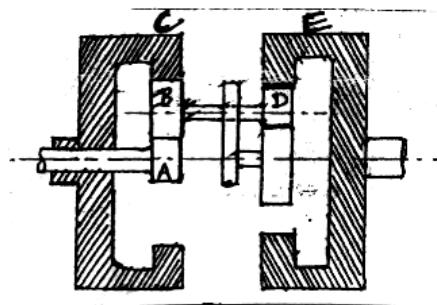

Fig. 8.
b. In an epicyclic gear train shown in Fig. 8, the driving wheel 'A' has 12 teeth and the fixed annular wheel 'C' has 98 teeth, The ratio of teeth numbers in wheels E and D is 90: 36. If 1.8 kW of power at 1100 rpm is supplied to wheel 'A', determine speed and the direction of rotation of E and fixing torque required at C.